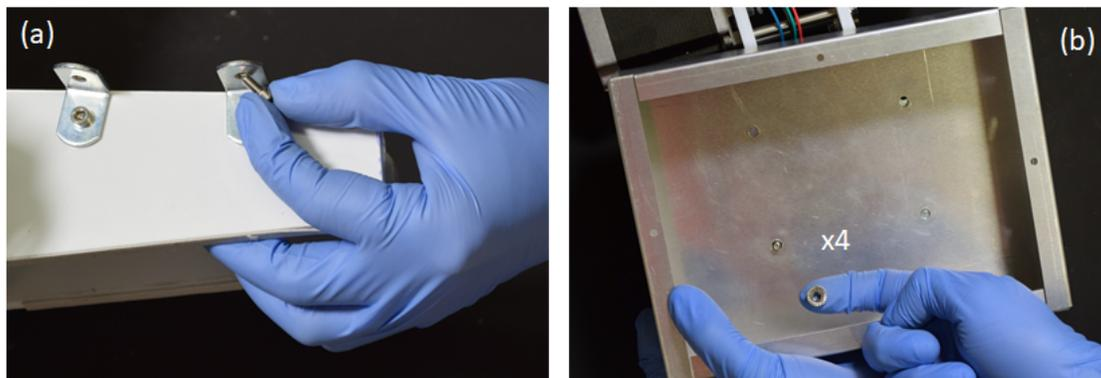

Figure 26
Step 61: Repeat steps 58 and 60 for all four holes on the **electrical box [Part 33]**. Refer to figure 26.